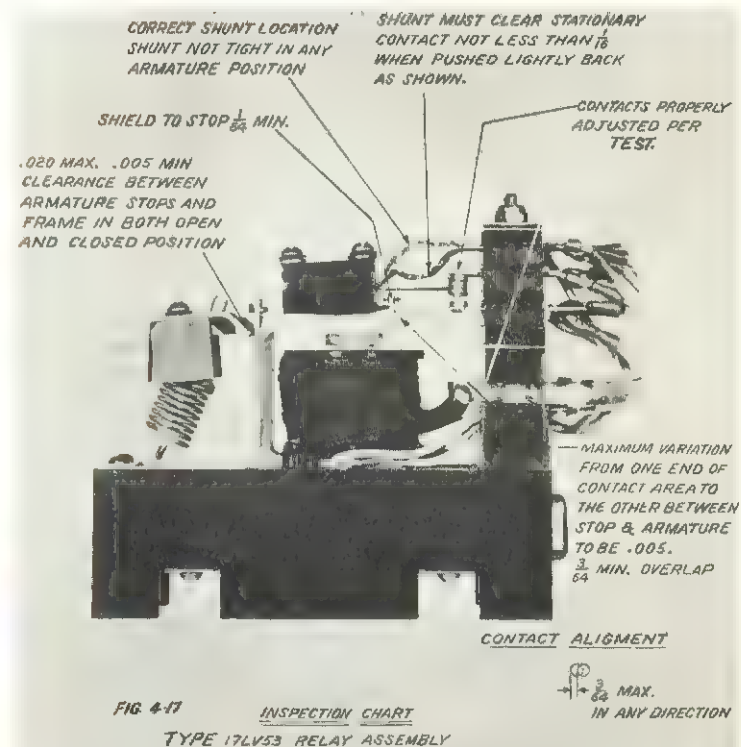

Fig. 17-20
- (1) Scribe or paint a diagonal line across contact blocks, (see Fig. 17-20) spacers and armature-stop assembly to insure correct sequence and alignment in re-assembly.
- (2) Remove counterweight 18 by removing screw 16.
- (3) Remove calibrating screw 17 by using stiff piano wire about 0.060-inch diameter bent into a hook with a loop handle. Unscrew until enough tension is removed to unhook spring 22.
- (4) Remove two screws 14 holding movable-contact finger-block assembly 10 to armature.